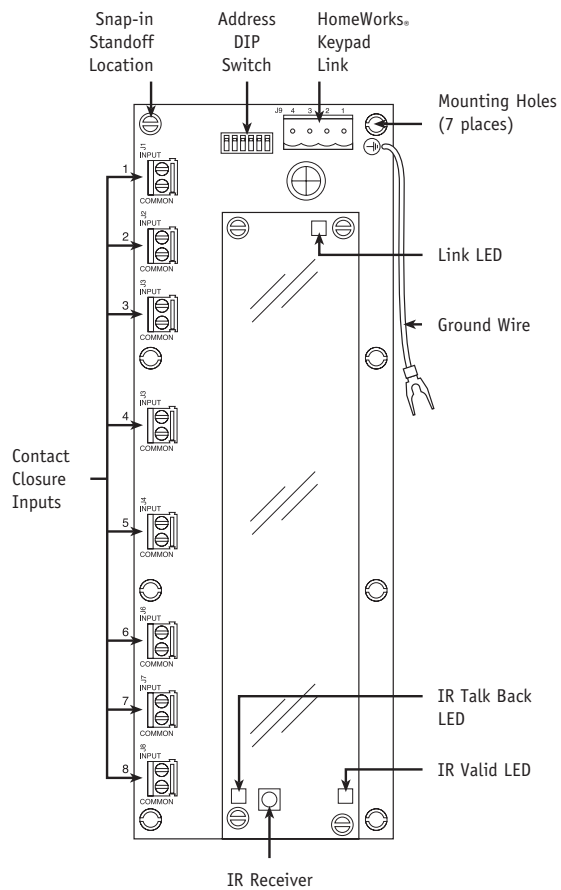

Figure 2 - HWI-CCI-8 Parts Identification
IR Receiver	Are compatible with these Lutron IR transmitters only: SP-HT-WH, SPS-FSIT-RP, SPS-4IT-RP, GRX-IT-WH and GRX-8IT-WH. An IR flasher can be mounted directly to the clear plastic shield over the IR receiver. See Fig. 2, pg. 144. Also see Appendix C: Infrared (IR) Integration.